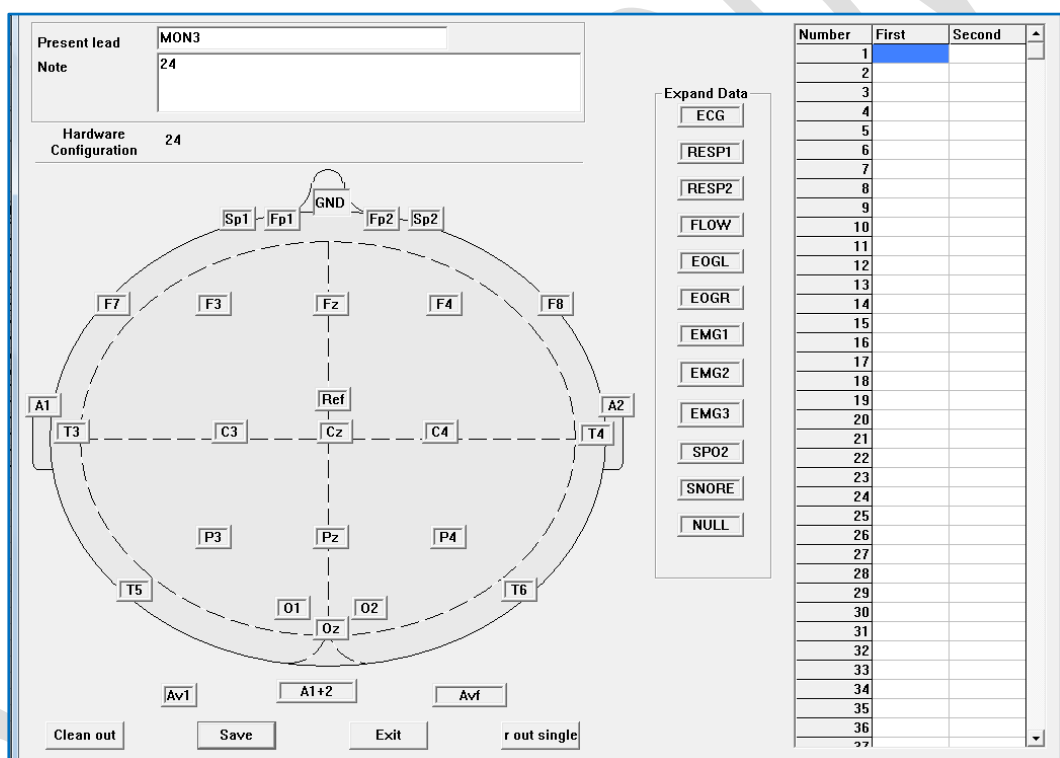

Fig 2-7 Leads Addition
- 7 Select a plan to be used for leads addition in Fig 2-7. Click "Add" to open the Leads Addition interface to determine how to connect the EEG channels.